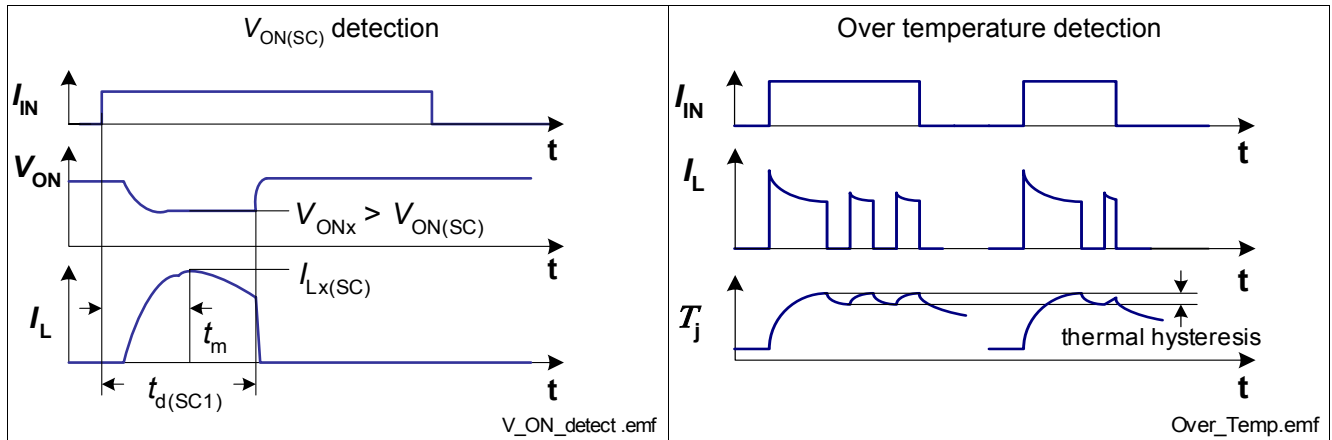
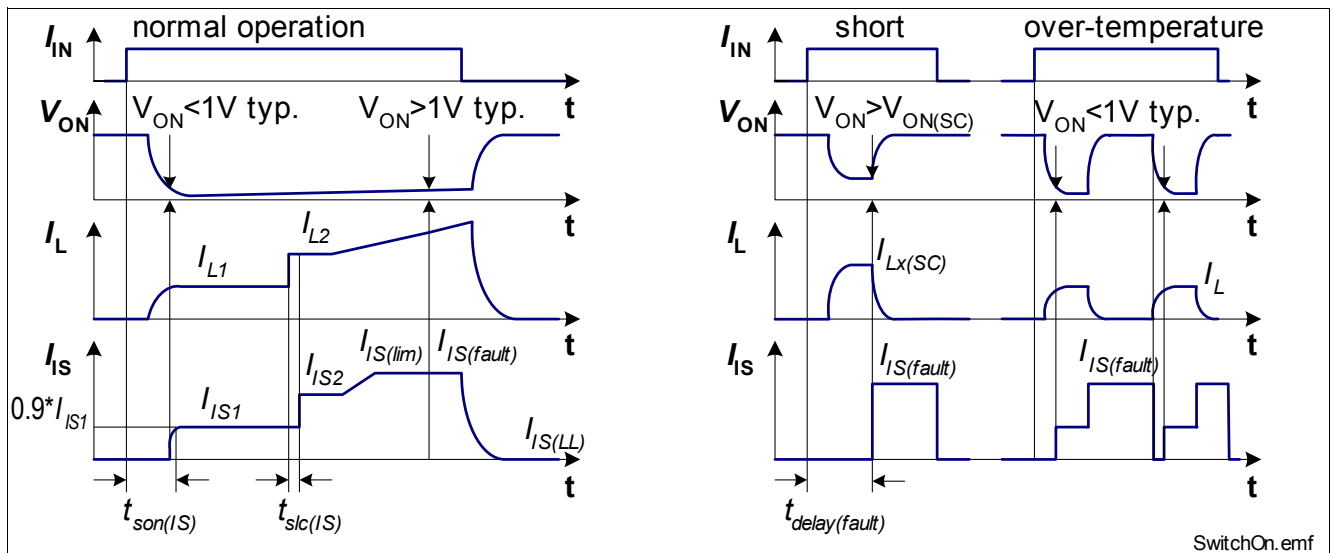

Figure 12 Overload Behavior
Figure 19 Timing of Diagnosis Signal in ON-state
In the event that either the short circuit detection via  $V_{ON(SC)}$  is not activated or that the on chip temperature sensor senses over-temperature before the blanking time  $t_{d(SC1)}$  expired, the device switches off resulting from over-temperature detection. After cooling down with thermal hysteresis, the device switches on again. The device will react as during normal switch on triggered by the input signal. Please refer to **Figure 12** and **Figure 19** for details.
- 2) Short circuit current limit for max. duration of  $t_{d(SC1)}$ , prior to shutdown, see also Figure 12.
Details about timings between the diagnosis signal  $I_{IS}$ , the forward voltage drop  $V_{ON}$  and the load current  $I_L$  in ON-state can be found in Figure 19.